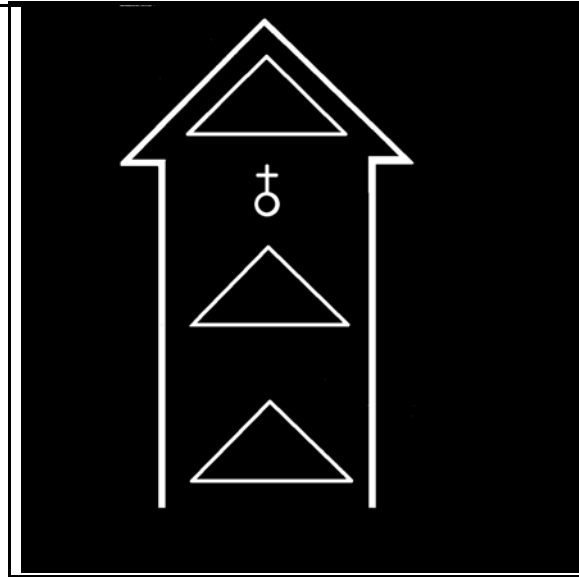

Figure 1. Dismount element column.
- a. Select the dismount element column as the primary movement formation (Figure 1, page 3-256). It has good dispersion in depth and makes control easier. It provides limited fire to the front but a high volume of fire to the flanks. The lead fire team is usually designated as the base team. The other fire teams guide on the base team.